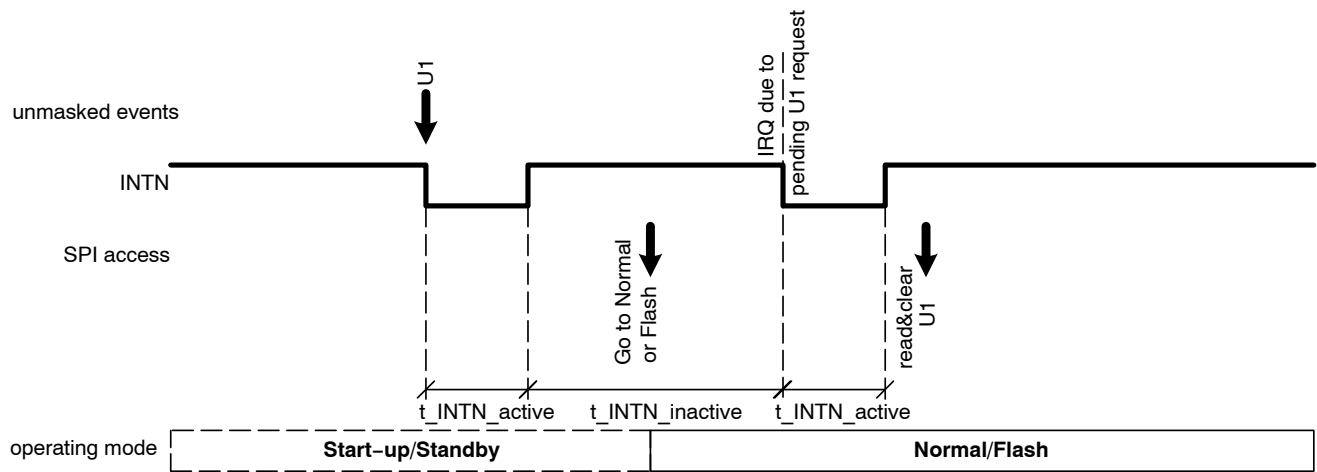

Figure 17. Interrupt Request Handling during a Transition to Normal Mode
- All event flags are preserved when transitioning from Start-up to Normal mode – see Figure 17.
- All event flags are preserved when transitioning from Standby to Normal mode – see Figure 17.